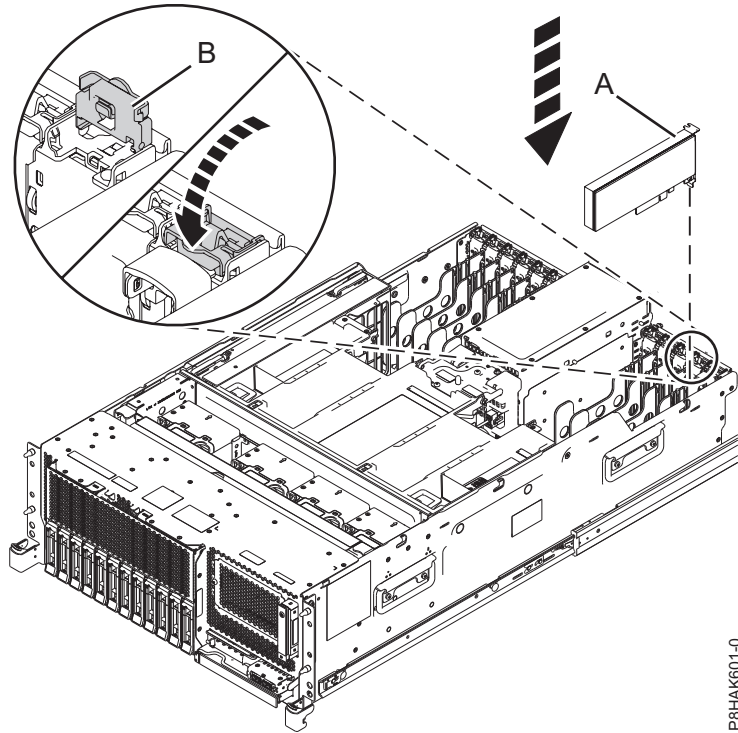
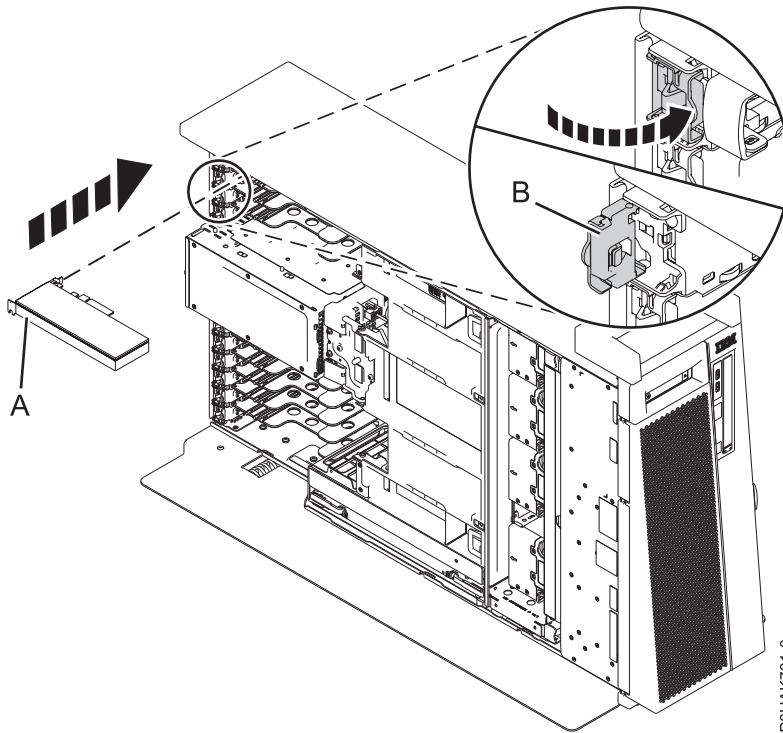

Figure 64. Installing or replacing a PCIe adapter in a rack-mounted system
Figure 65. Installing or replacing a PCIe adapter in a stand-alone 8286-41A system
5. If the adapter latch (**B**) at the target slot is not already in the open position, pull the latch into the open position by rotating the latch outwards from its clip on the back of the system, as shown in Figure 64 on page 69 and Figure 65 on page 69.
6. Carefully grasp the adapter by its top edge or tailstock, and align the adapter with the slot and its connector on the system backplane (**A**), as shown in Figure 64 on page 69 and Figure 65 on page 69.
8. To lock the adapter in its slot, rotate the adapter latch (**B**) in the direction that is shown in Figure 64 on page 69 and Figure 65 on page 69.